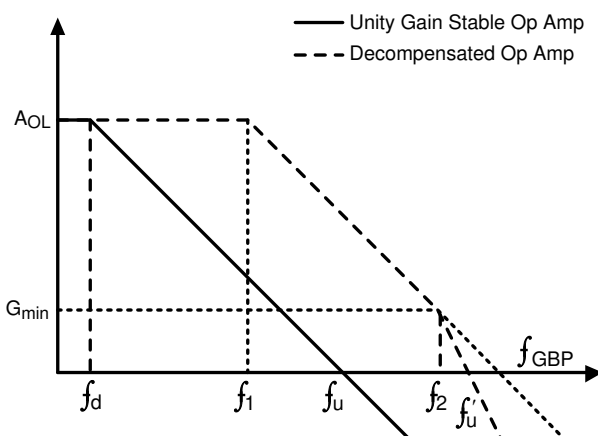

图 8-5. Gain vs Frequency Characteristics for a Unity-Gain Stable Op Amp and a Decompensated Op Amp
As shown in 图 8-5, the dominant pole  $f_d$  is moved to the frequency  $f_1$  in the case of a decompensated op amp. The solid  $A_{OL}$  plot is the open-loop gain plot of a traditional unity-gain stable op amp. The change in internal compensation in a decompensated amp such as the OPAX607, increase the bandwidth for the same amount of power. That is, the decompensated op amp has an increased bandwidth to power ratio when compared to a unity-gain stable op amp of equivalent architecture. Besides the advantages in the above mentioned parameters, an increased slew rate and a better distortion (HD2 and HD3) value is achieved because of the higher available loop-gain, compared to its unity-gain counterpart. The most important factor to consider is ensuring that the op amp is in a noise gain (NG) greater than  $G_{min}$ . A value of NG lower than  $G_{min}$  results in instability, as shown in 图 8-5, because the  $1/\beta$  curve intersects the  $A_{OL}$  curve at 40 dB/decade. This method of analyzing stability is called the *rate of closure method*. See the precision lab training videos from TI for a better understanding on device stability and for different techniques of ensuring stability.